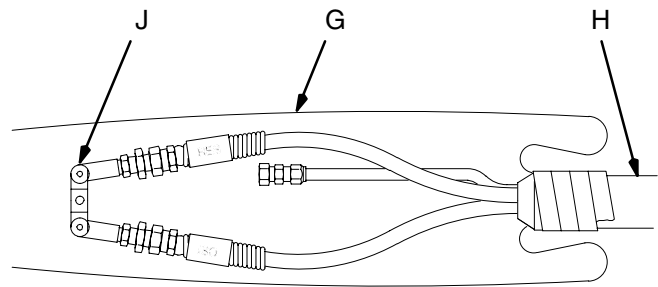

Fig. 8
- a. Lay the abrasion cover (G) and assembled heated hose (H) end to end. Refer to Fig. 8.
- b. With the gun disconnected from the gun manifold (J) and the air hose disconnected from the gun, pull a couple of inches of the cover (G) over the manifold and hoses and tape the cover to the hoses.
- c. Push the cover (G) onto the hoses. See Fig. 8. The cover will double over itself and be turned inside out as it slides over the hoses.
- d. Secure the other end of the cover (G) with tape.